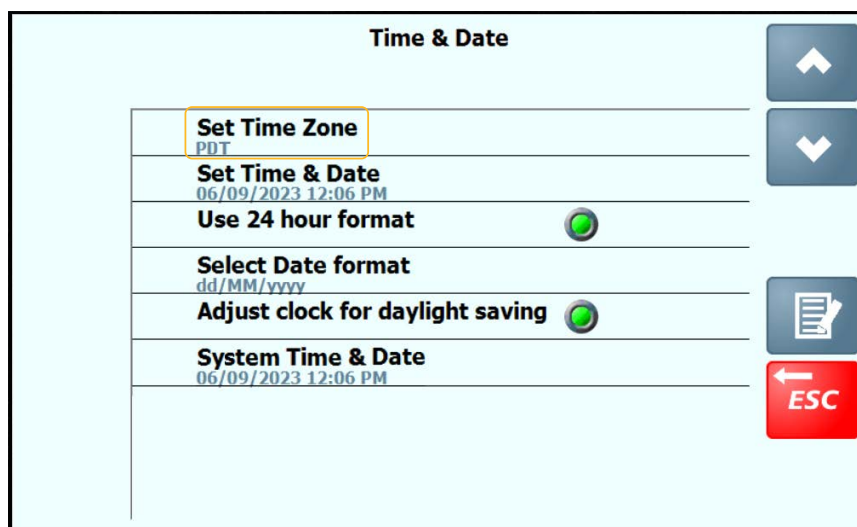

Figure 2-6: Load Weighing Display Time & Date
2. Select **OK** to open the **Time & Date** screen (Figure 2-6 on page 2-5).